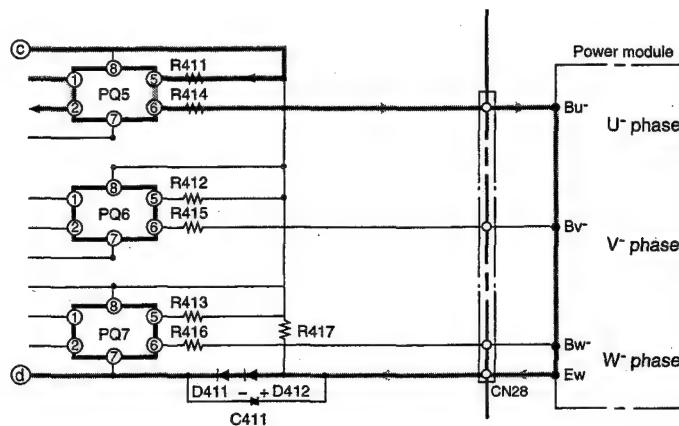

Fig. 7-4
- Fig. 7-4 shows the lower arm drive circuit.
- When pin ⑥ of the micro computer goes "HI" → "LO", a photocoupler between PQ5 pins ① and ② turns on and current flows to terminal ⑥ → R411 → PQ5 → R414 → power module's BU- terminals → Ew- terminals → D412 → D411 → terminal ④ and drives the lower arm transistors. (Fig. 7-4)
- The signals which turn on or off according to the position detection signals are output from pins ⑥ ⑦⑧ of the micro computer in the same way as in the upper arm drive circuit and are input to pins ② of photocouplers PQ5-PQ7.